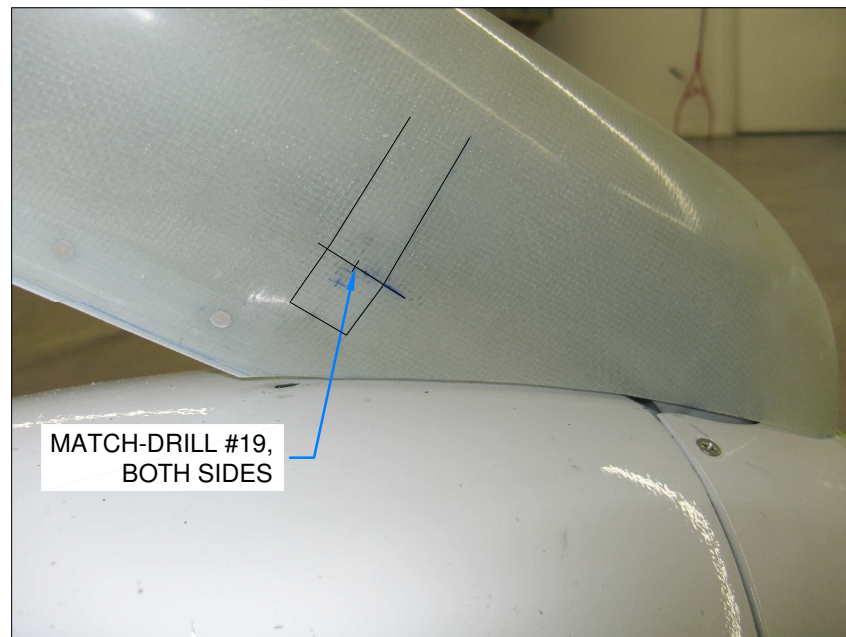

FIGURE 2: DRILL THE NOSE GEAR LEG FAIRING
Step 3: Drill #19 the two bracket attach holes in the fairing by sighting through the fairing at the holes in the Nose Gear Leg Assembly fairing brackets as shown in Figure 2.